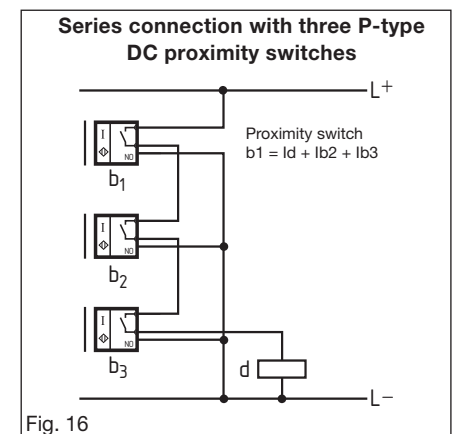

Fig. 16
- as diffuse reflective sensor (proximity switch) (Fig. 16)